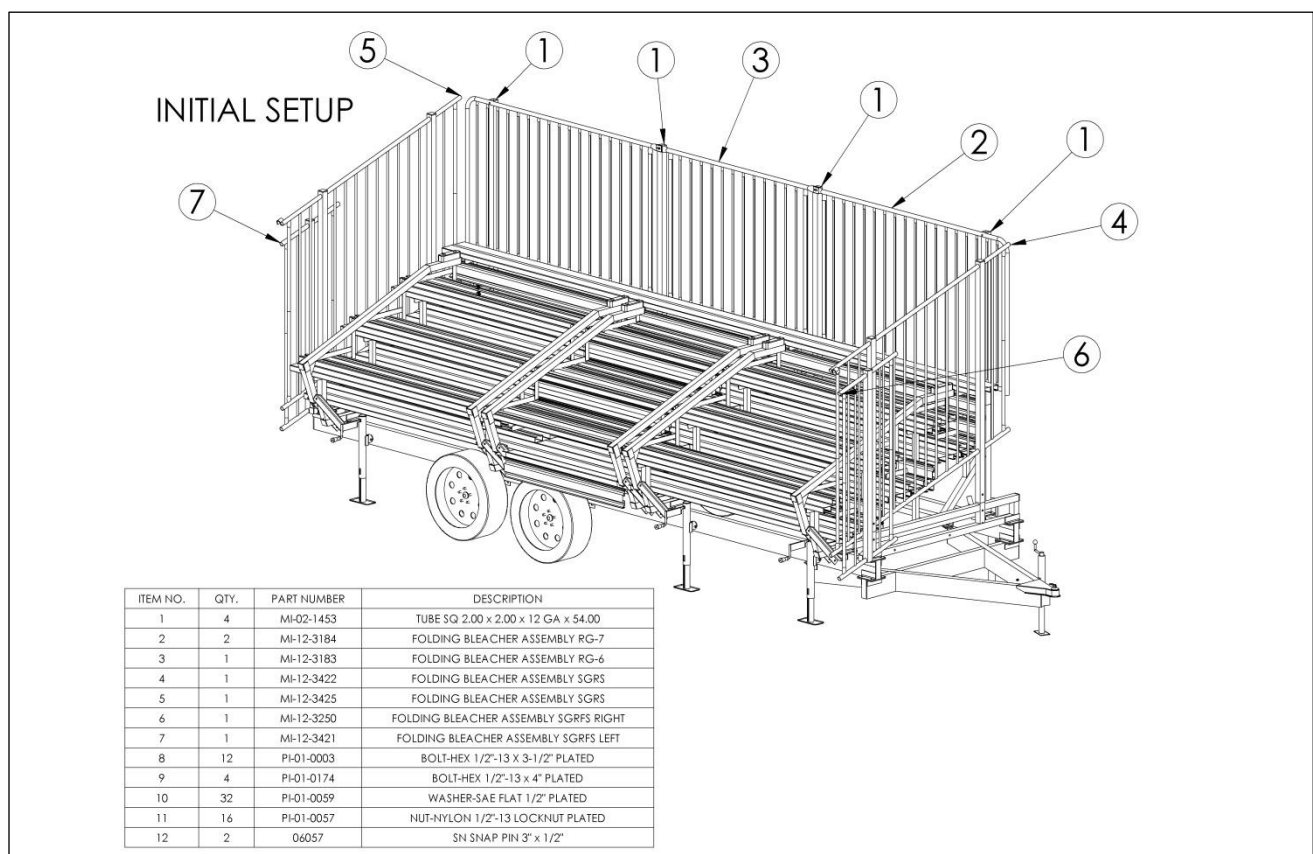

Figure 1.
Step 2) Install the rear guard posts using one 3-1/2" bolt, two washers and one locknut per post, the end with two holes is the bottom. Shown in Figure 1 (Item 1), the posts should be installed on the inserts at the rear of the bleacher. **Do not tighten nuts.**
Step 3) Install the rear guard intermediate panel using four 3-1/2" bolts, eight washers and four locknuts. Shown in Figure 1 (Item 3), the panel should be installed on the posts that were installed in step 2. **Do not tighten nuts.**
Step 4) Install the rear guard end panels using two 4" bolts, four washers and two locknuts per panel. Shown in Figure 1 (Item 2), these panels should be installed on the posts that were installed in step 2. **At this time tighten all nuts.**
Step 5) Install the side guard end panels using two 3-1/2" bolts, four washers and two locknuts per panel. Use Figure 1 (Item 4 & 5) to verify panel locations, the saddles on the top front corners should face out. Tighten all nuts.
Step 6) Install the side guard end panel extensions. Use Figure 1 (Item 6 & 7) to verify panel locations, the panel extensions will slide into the side guard panel base thru the open tube at the bottom. Finally pin these panels in their retracted position with the 1/2" x 3" snap pins.